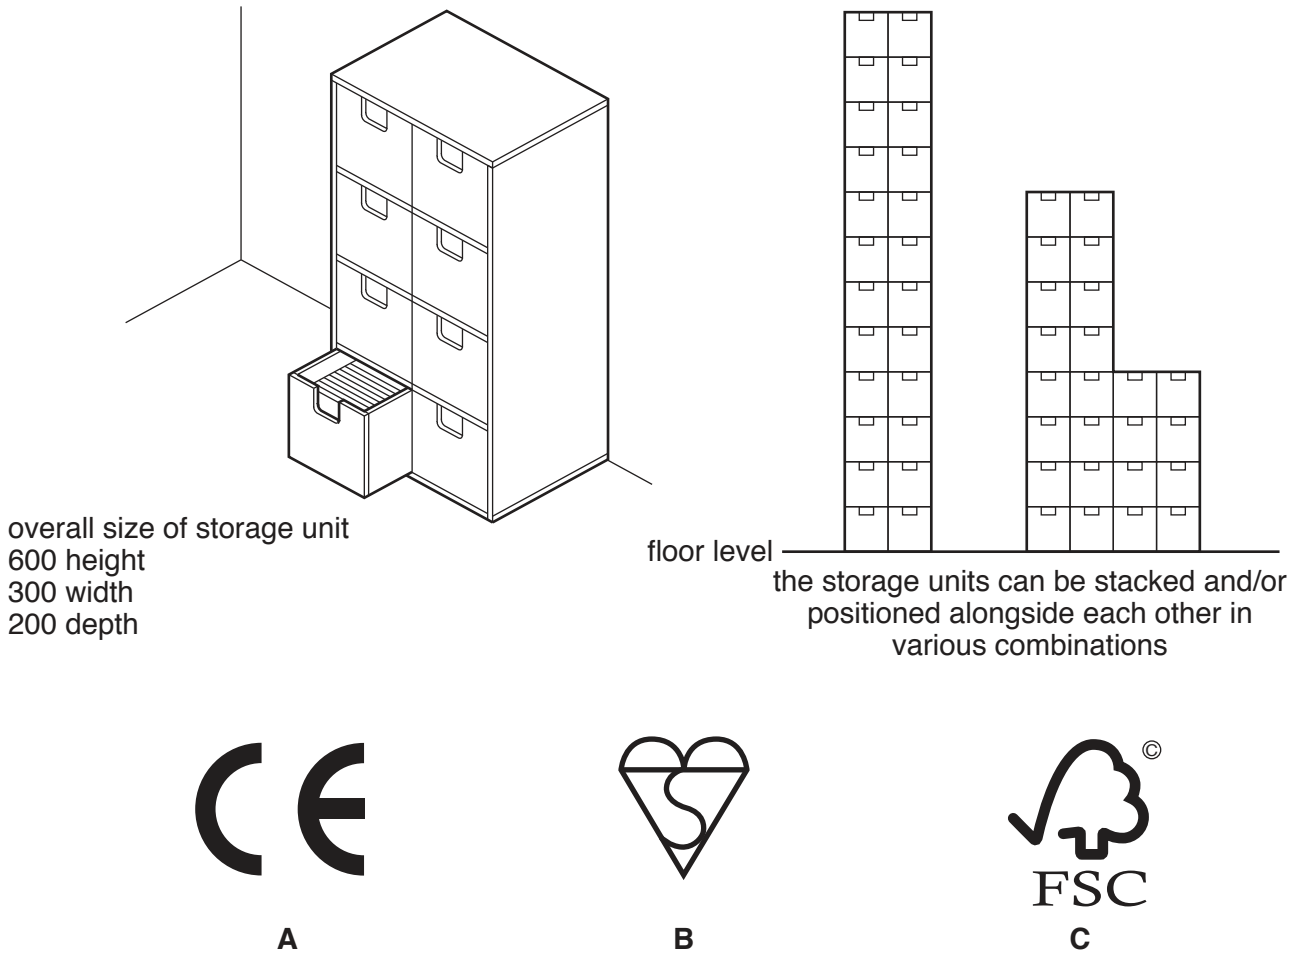

Fig. 4
- 4 Fig. 4 gives details about a modular storage unit that can be arranged in various combinations as illustrated. The symbols shown are ones that many manufacturers place on their products.
- (b) Tests carried out on the storage unit have shown that it is unsafe when used in the combinations shown in Fig. 4. Identify **and** describe **two** problems with the design of the storage unit that make it unsafe. [4]